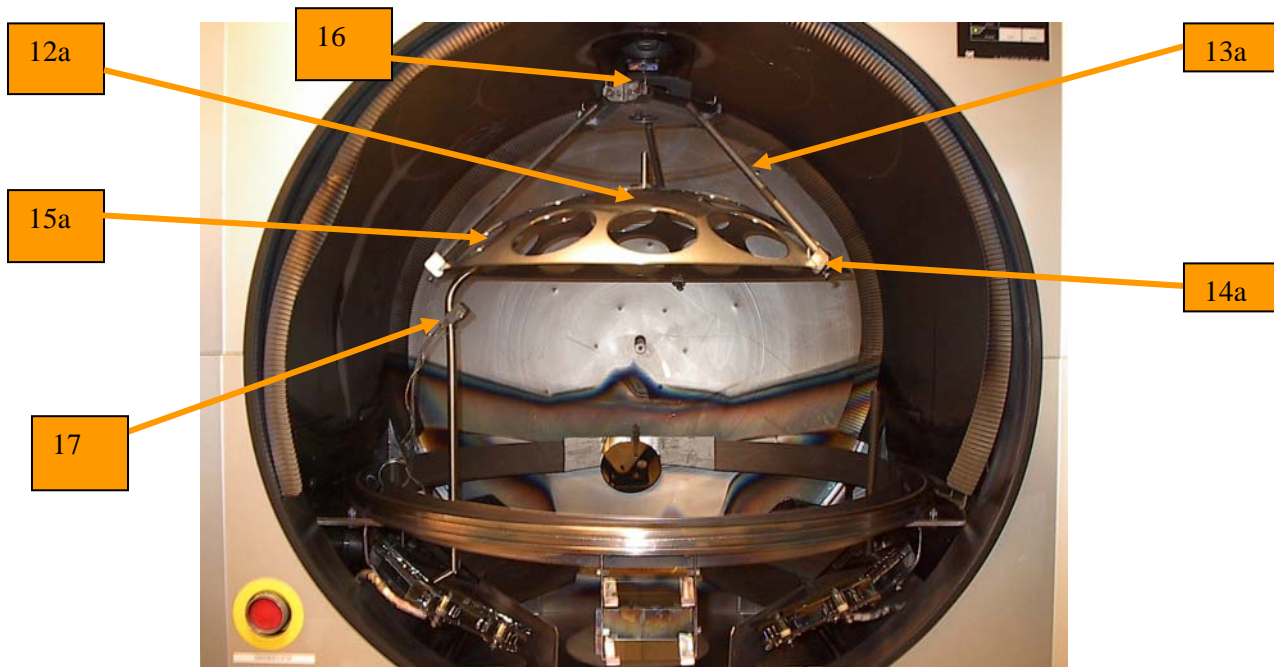

Figure 6
**Remove** the uniformity shield (fig6 – 15a).
**IMPORTANT:** Cover crystal sensor #2 (fig6 – 17).
**Remove the lift-off dome** (fig6. - 12a) while being careful not to bump into pocket mirror, or lift-off crystal monitor.